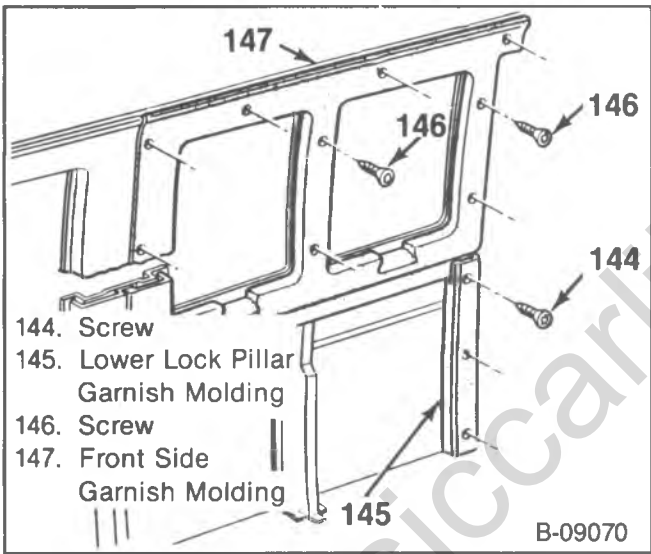

Figure 49—Front Garnish Moldings
7. Lower lock pillar garnish molding screws and the molding (figure 49).
8. Body side front garnish molding screws and the molding (figure 49).
7. Body side front garnish molding and screws (figure 49).
8. Lower lock pillar garnish molding and screws (figure 49).